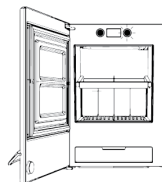

Fig. 5, press and hold “Activate Clean Cycle” button.
4. Press and hold the “Activate Clean Cycle” button for 3 seconds to begin cleaning cycle. See Fig. 5 on next page.